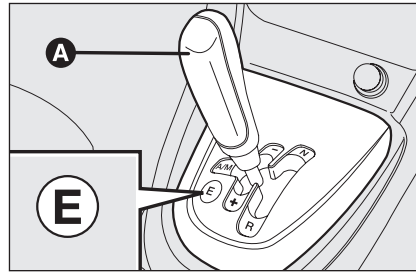

fig. 3
- the second fully automatic (**AUTO**), where the system decides when to shift gear. **ECO** function (Economy) can be used with this mode reducing fuel consumption. To turn this function on, press button **E**-fig. 3 located on the gearbox trim.